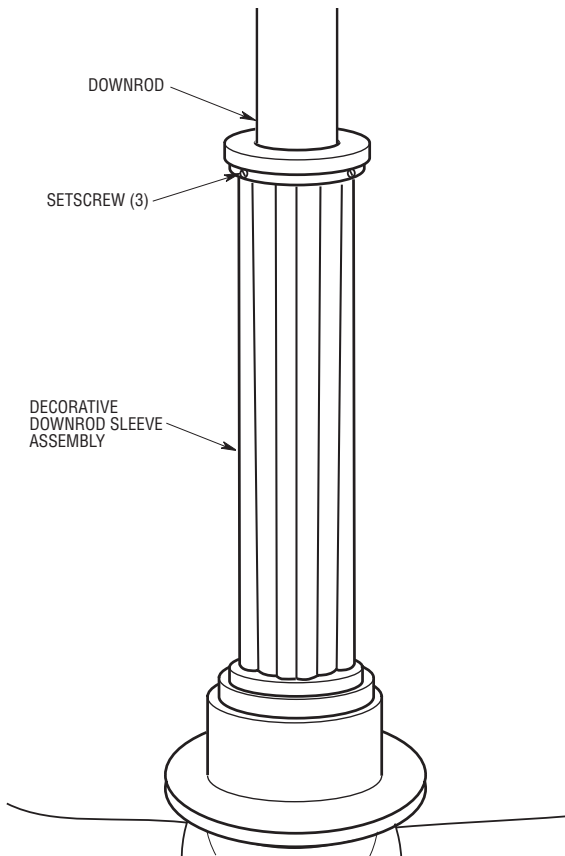

Figure 3
- 5. Route the motor lead wires and support wire through the decorative downrod sleeve assembly. Carefully slide the decorative downrod sleeve assembly over the downrod and set firmly on downrod coupling (Figure 3).
- 6. Using the hex wrench (supplied), tighten the three setscrews located at the top of the decorative downrod sleeve assembly (Figure 3).